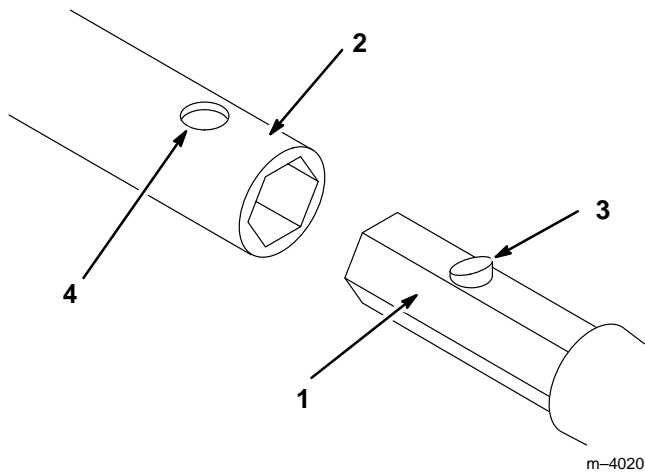

Figure 4
- Slide the hex shaft of a rod, boring bit, or reamer into the socket. Align the hole in the socket with the push button connector (Fig. 4).
- Press down the push button connector and push the shaft into the socket until the connector snaps into the hole in the socket (Fig. 4).